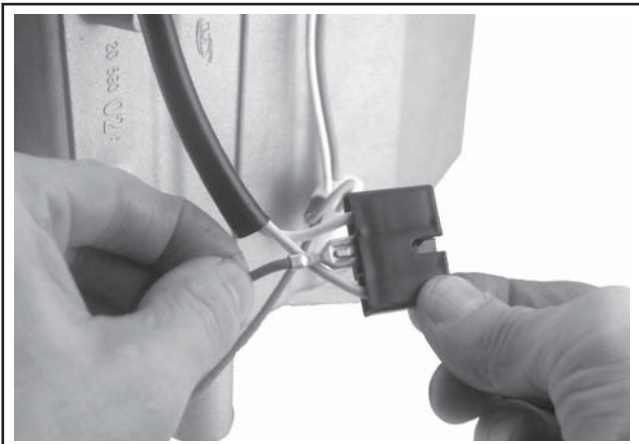

Figure 10-48. Installing B+ Lead into Connector.
1. Check that the locking tang on the terminal of the violet B+ wiring harness lead is angled upward. Insert the terminal into the center location of the rectifier-regulator plug connector until it locks into place. If not already inserted, the two AC leads from the stator go in the outer locations. See Figure 10-48.